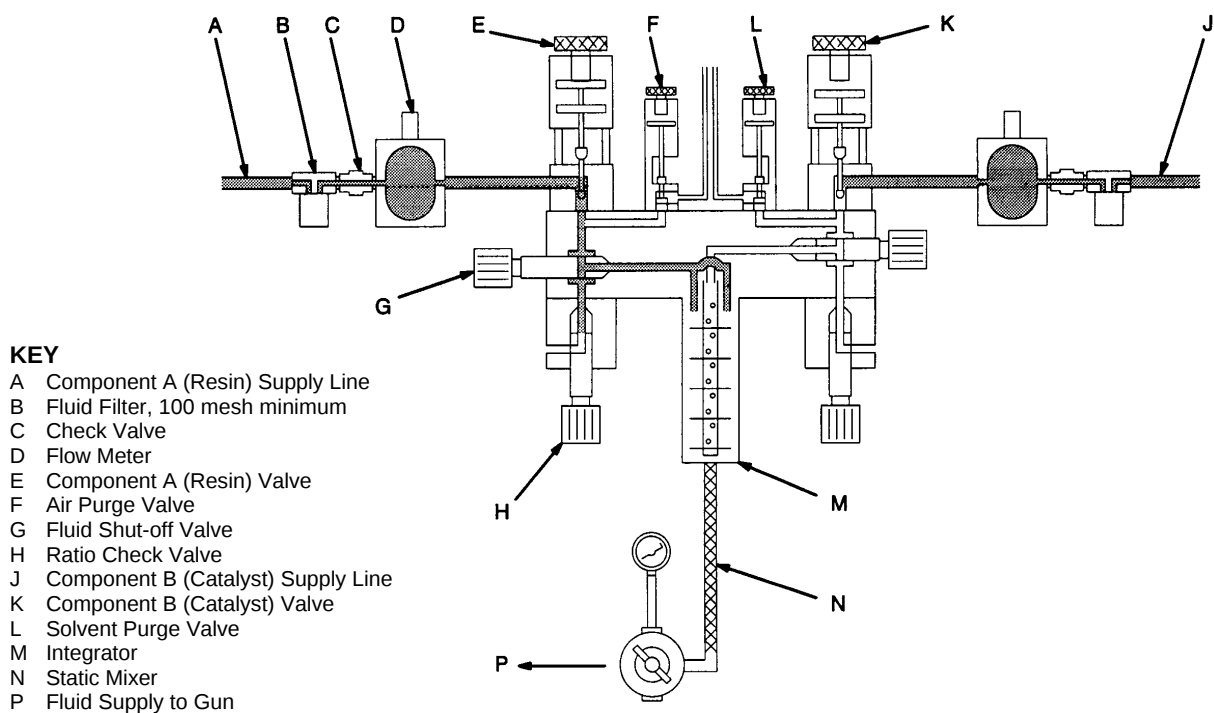

Fig 1
- First, the component A (resin) dispense valve opens, and the fluid begins to flow into the integrator chamber. When the correct quantity has been dispensed (based on the calculated target value), the component A dispense valve closes. See Fig. 1.